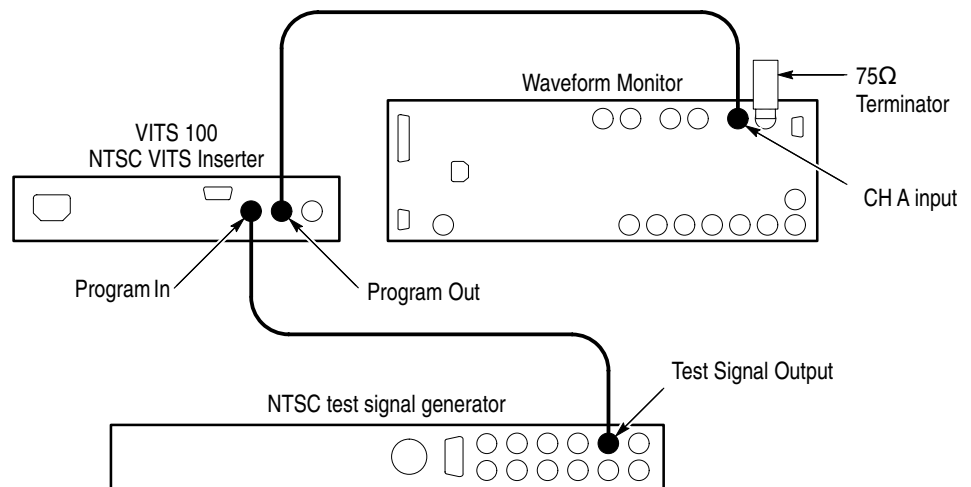

Figure 1–1: A setup for the functional check
3. Connect the VITS inserter to a test signal generator and waveform monitor as shown in Figure 1–1.